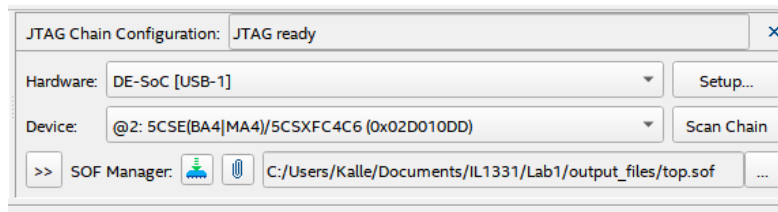

Figure 13: Bitstream setup in Signal Tap Logic Analyzer
- After compilation select the bitstream file in the top right JTAG Configuration. Should look similar to Figure 13. Press ”Program Device” to upload the new bitstream with our TRNG design including the Logic Analyzer core.